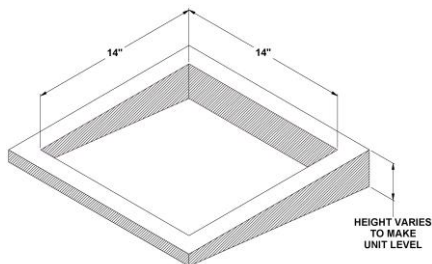

Figure 2
C. The roof top air conditioner must be mounted as near level front to rear and side to side as possible when the vehicle is parked level. Figure 3 shows the maximum allowable degree deviations mounting degrees from total surface flat plane). If the roof of the vehicle is sloped such that the air conditioner cannot be mounted within the maximum allowable degree deviations, an exterior leveling shim will need to be added to make the roof top air conditioner level. A typical leveling shim is shown in Figure 2.